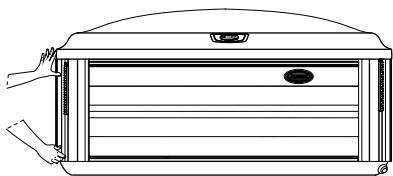

Figure 13.2a
- Grab one of the corner panels, from the bottom, where it touches the bottom pan. Then gently pull the panel forward to unsnap it from the holding clip then pull down to remove, Figure 13.2a. Place the panel in a safe location to prevent from damaging it. Repeat the steps to remove the other corner panel. Note: The optional corner exterior lights on the panels are connected to the light harness. Take care when removing the corner panels to avoid damaging the wires or lights.